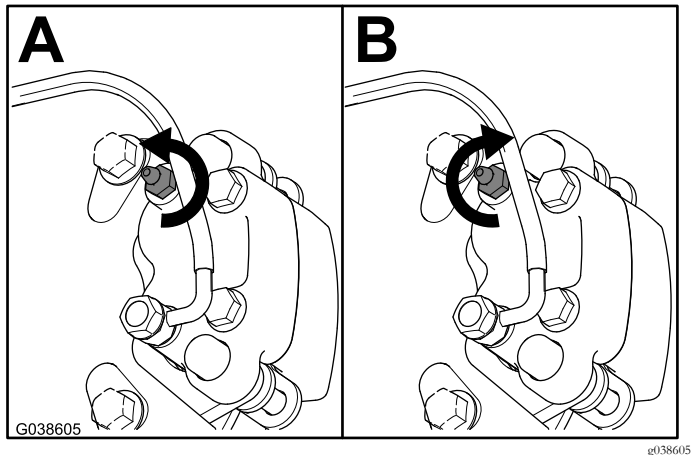

Figure 12
3. With brake pedal pushed down fully, loosen the bleed screw 1/4 turn (Figure 12).
4. With brake pedal pushed down fully, tighten the bleed screw 1/4 turn (Figure 12).